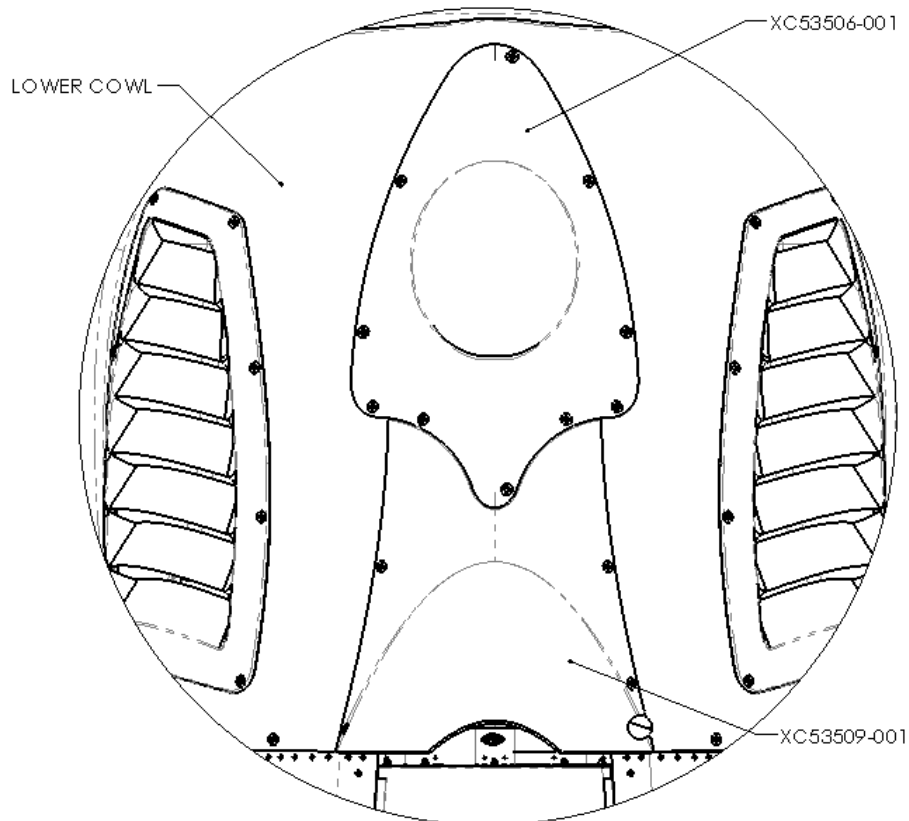

Figure 30 – Existing Lower Cowl Subassembly
40. Remove XC53506-001 and XC53509-001 from lower cowl (see Figure 30).
- 42. Reinstall XC53509-001 (shown in Figure 30) onto lower cowl.